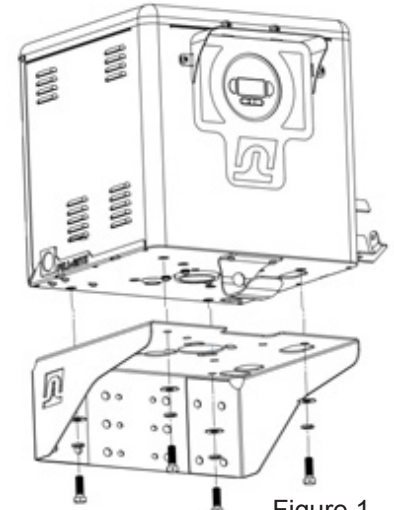

Figure 1
3. Place dispenser on mounting plate or pedestal; using the 4 – 1/2 x 13 screws, and grommet washers, attach the dispenser securely to the mounting surface through the 4 holes located in bottom of the dispenser cabinet base (figure 1).